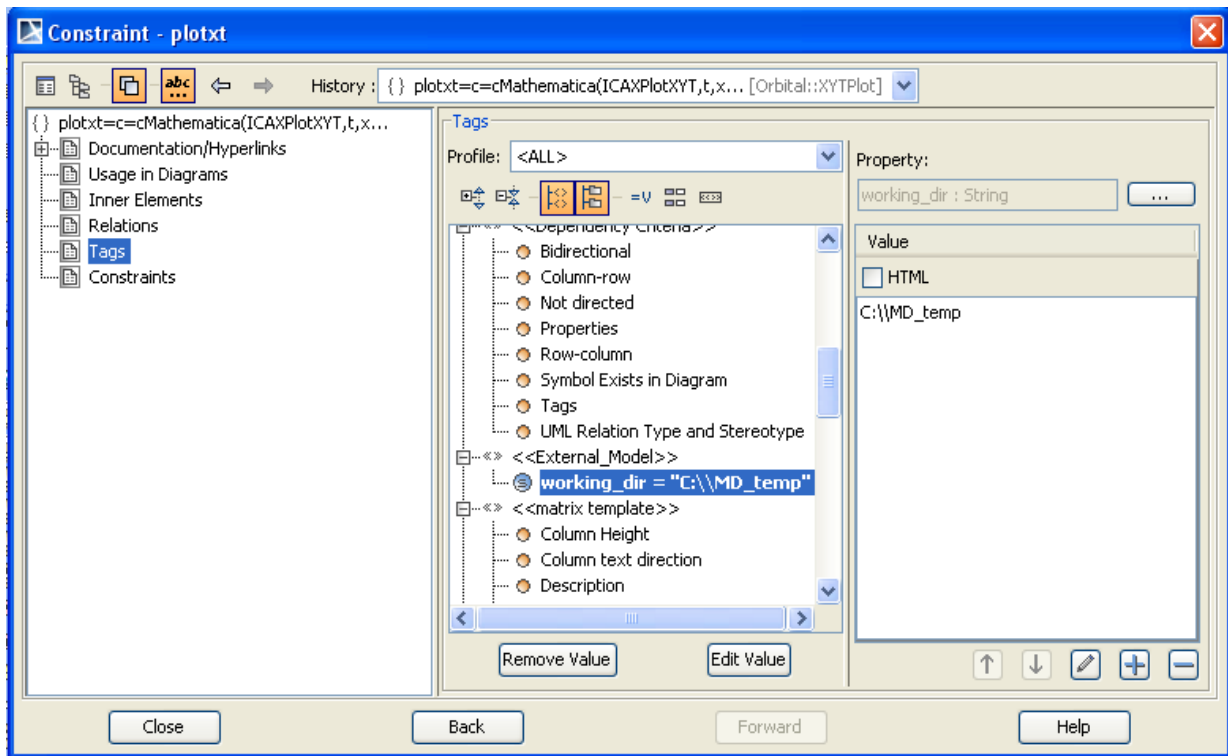

Figure 6.5 Constraint window for defining graph output destination
- i. Double-click on the constraint and open the Constraint window (see Figure 6.5)